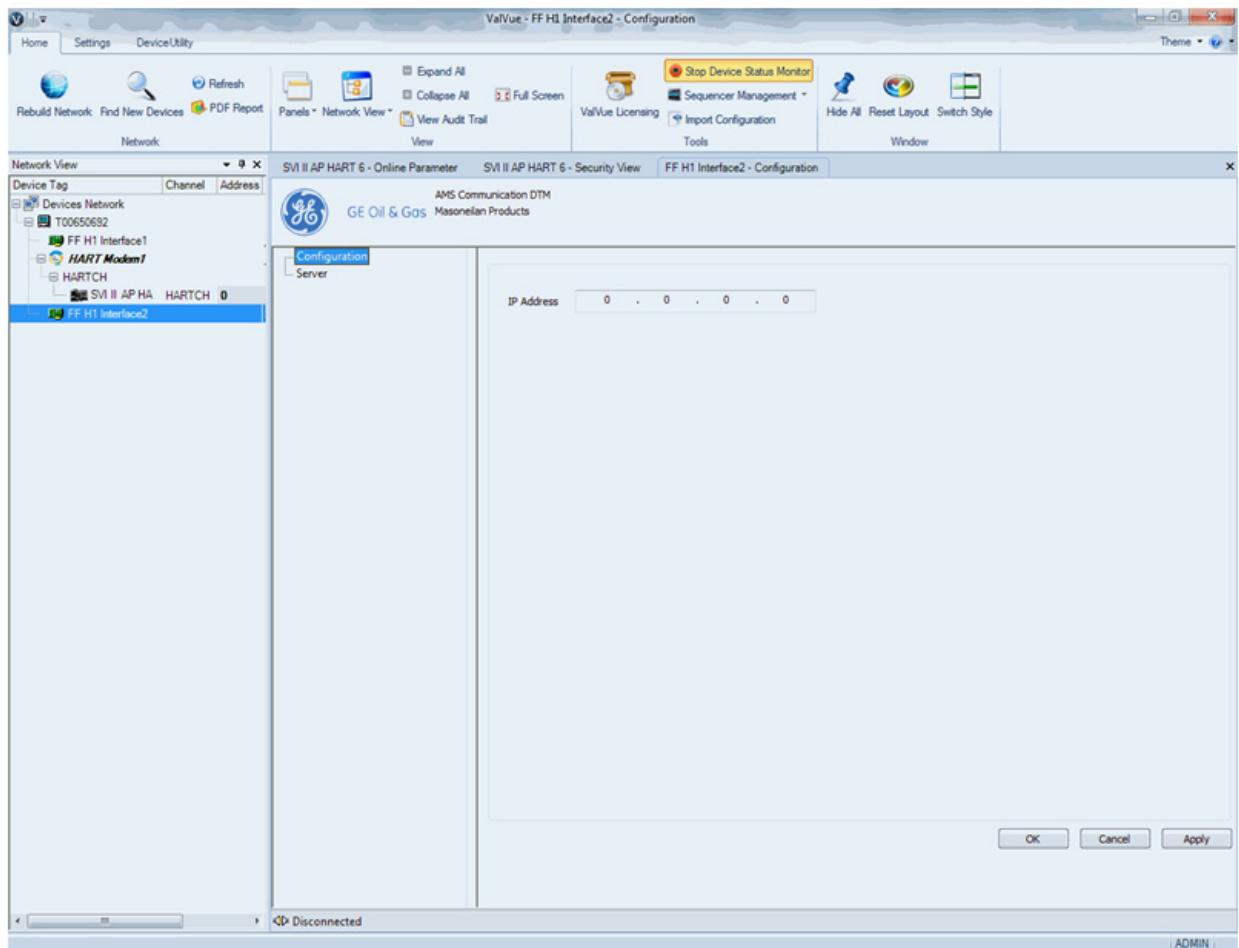

Figure 116 AMS Communications Page
5. Click **OK** and Figure 116 appears.